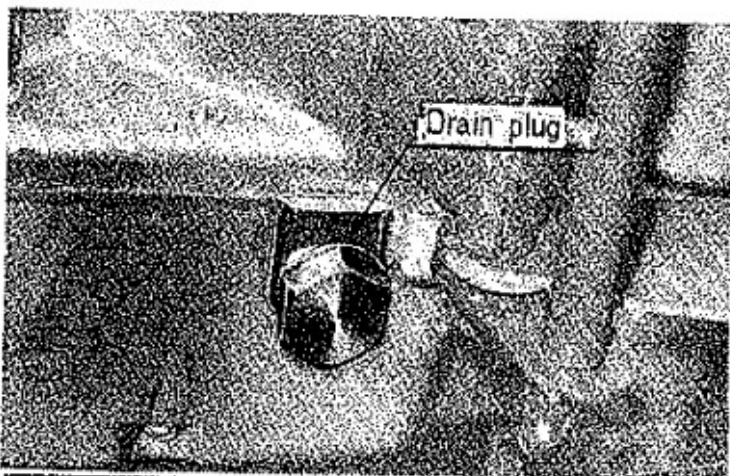

Fig. 23
- Drain out dirty oil after running in. (Fig. 23)